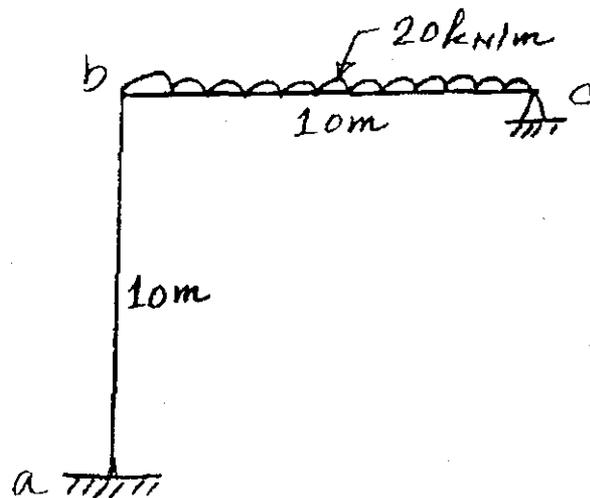

Fig. 2
- (b) Analyse the knee-frame shown in Fig. 2 by flexibility method and hence draw the BMD. Assume EI - Constant.